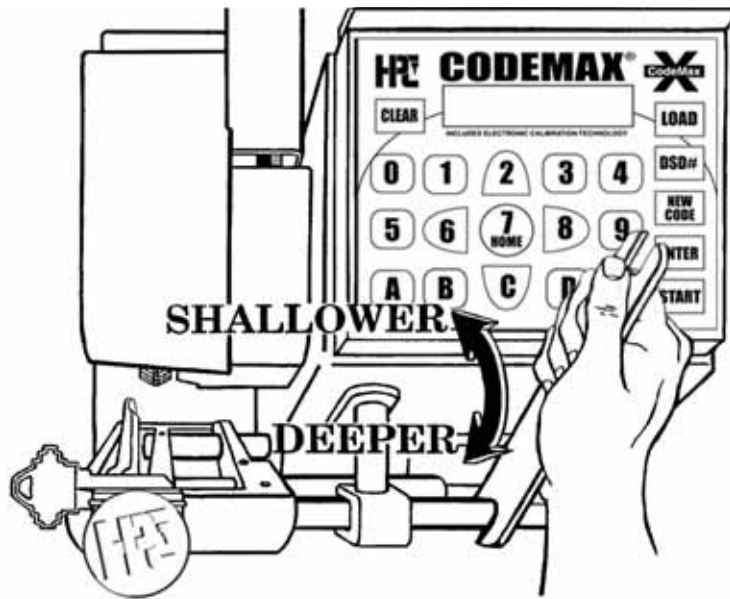

Fig. 1
The need to readjust depth is caused by cutter wear or cutter replacement. It is easily accomplished by rotating the eccentric shaft (CM-1041) with the 3/8 inch end of WRENCH-1, turning towards you to cut deeper, and away from you to cut shallower. The 180 degree rotation allows depth adjustments of plus or minus .015 inch. Since the eccentric shaft is made of drill rod, there is no need to loosen the two binding screws prior to rotating it (see Fig. 1).
- 5) After the key has been cut, use a micrometer or caliper to measure the depth cut and compare it against the Depth and Spacing specifications chosen in step 3 above. If the reading of the micrometer is the same as the Depth and Spacing specifications, the machine is cutting correctly. If the cuts are higher or lower, adjust the Eccentric Shaft as explained in the beginning of this section (see Fig. 1). When checking the calibration on a key machine, it is very important to use the proper tools in order to maintain the accuracy of the machine. A key micrometer or caliper is a small investment and is highly recommended to acquire the greatest accuracy.